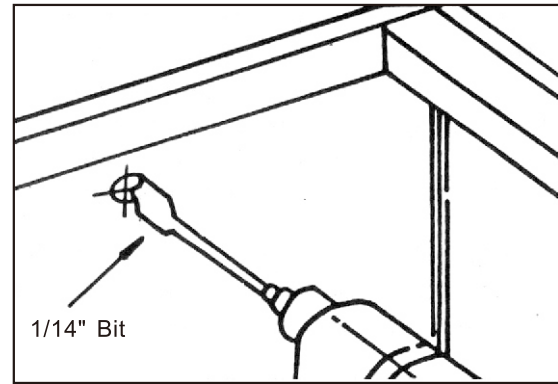

Fig .9 Drill an acces hole for electrical power line
5. On the cabinet, mark the position of the access hole through which the power supply cord will go. Drill the access hole with a 1-1/4" screwdriver. (Fig. 9)